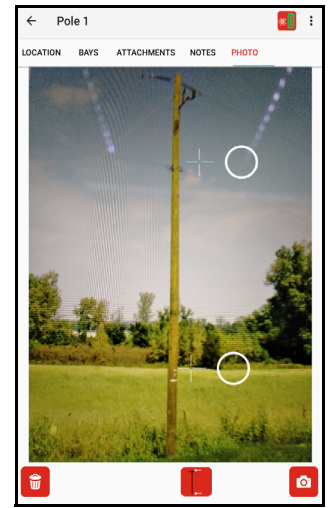

Figure 34
- Tap the  button to delete the image (Figure 34).